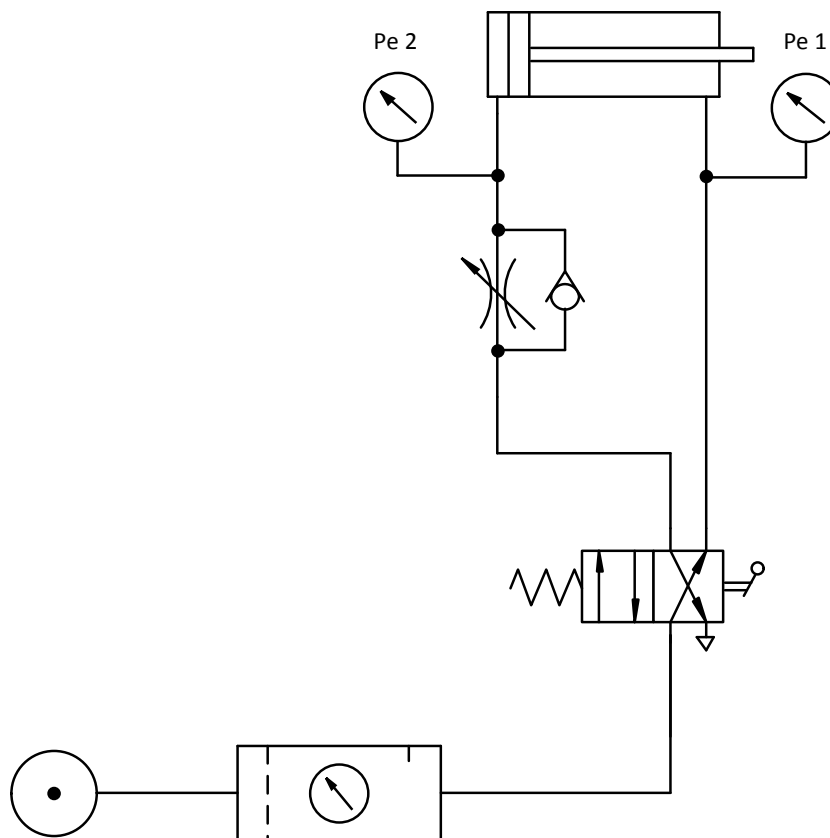

FIG 6.
- B. When the 4/2-way directional control valve is in its stationary position, the piston rod will be in its returned position and the working pressure (P_{e1}) will be shown on the pressure gauge. (Fig 6)